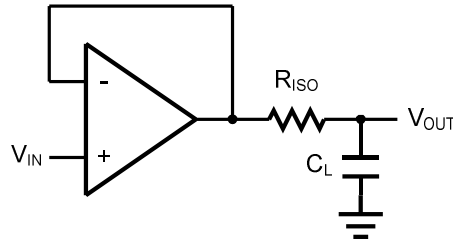
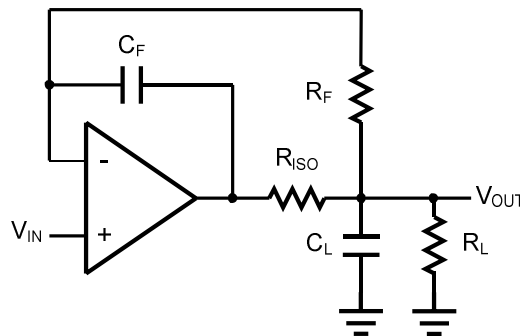

Figure 2. Indirectly Driving a Capacitive Load Using Isolation Resistor
Figure 3. Indirectly Driving a Capacitive Load with DC Accuracy
The HGV604X family is optimized for bandwidth and speed, not for driving capacitive loads. Output capacitance will create a pole in the amplifier's feedback path, leading to excessive peaking and potential oscillation. If dealing with load capacitance is a requirement of the application, the two strategies to consider are (1) using a small resistor in series with the amplifier's output and the load capacitance and (2) reducing the bandwidth of the amplifier's feedback loop by increasing the overall noise gain. Figure 2. shows a unity gain follower using the series resistor strategy. The resistor isolates the output from the capacitance and, more importantly, creates a zero in the feedback path that compensates for the pole created by the output capacitance.
The circuit in Figure 3 is an improvement to the one in Figure 2. R_F provides the DC accuracy by feed-forward the V_{IN} to R_L. C_F and R_{ISO} serve to counteract the loss of phase margin by feeding the high frequency component of the output signal back to the amplifier's inverting input, thereby preserving the phase margin in the overall feedback loop. Capacitive drive can be increased by increasing the value of C_F. This in turn will slow down the pulse response.